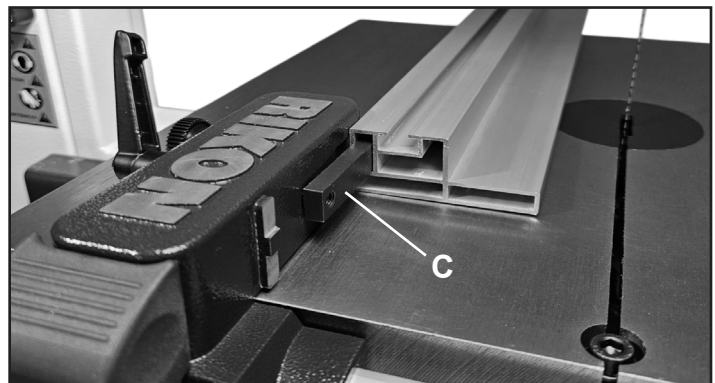

FIGURE 32
- Slide the fence forward to remove it from the carrier's Locking Frame Bar (#160, FIG. 32, C).
- Slide the fence forward to remove it from the carrier's Locking Frame Bar (#160, FIG. 32, C). Move the carrier on the front rail to the right side of the table and blade.